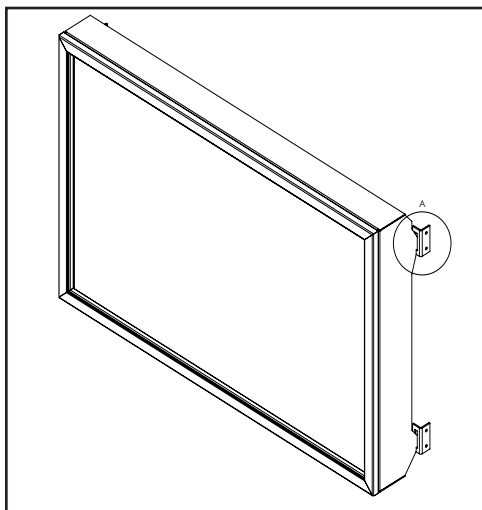

Figure 32: Installing Safety Screen onto Cabinet Bracket (Parts removed for clarity)
To install the safety screen hold it upright in front of the fireplace with four (4) hooks pointing towards the fireplace. Slide the hooks into the corresponding brackets on each side of the cabinet (see figures 32 and 33). Ensure the hooks are secure to confirm correct installation. To remove the safety screen unhook it from the brackets by lifting up and out.